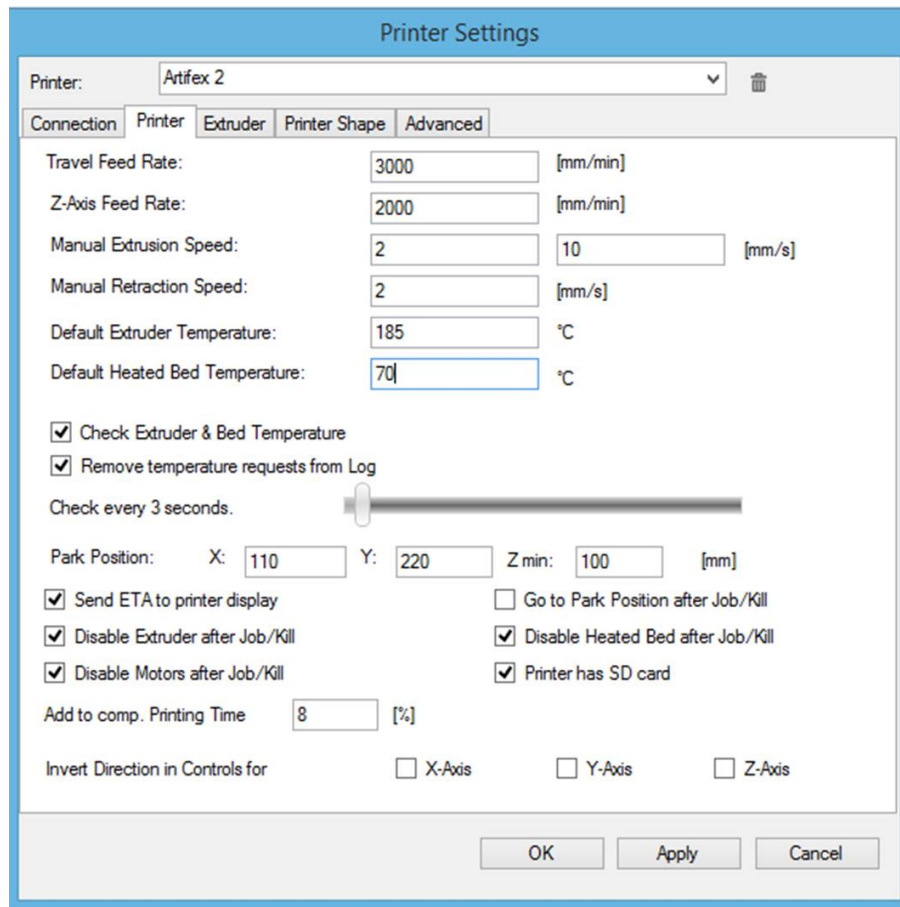

Figure 2.22: Printer Settings: Printer
- Configure the settings on the “**Printer**” page (Figure 2.22). Depending on your printing materials, the default temperature of extruder and heated bed can be set to either 185C/70C (PLA), or 230C/95C (ABS).